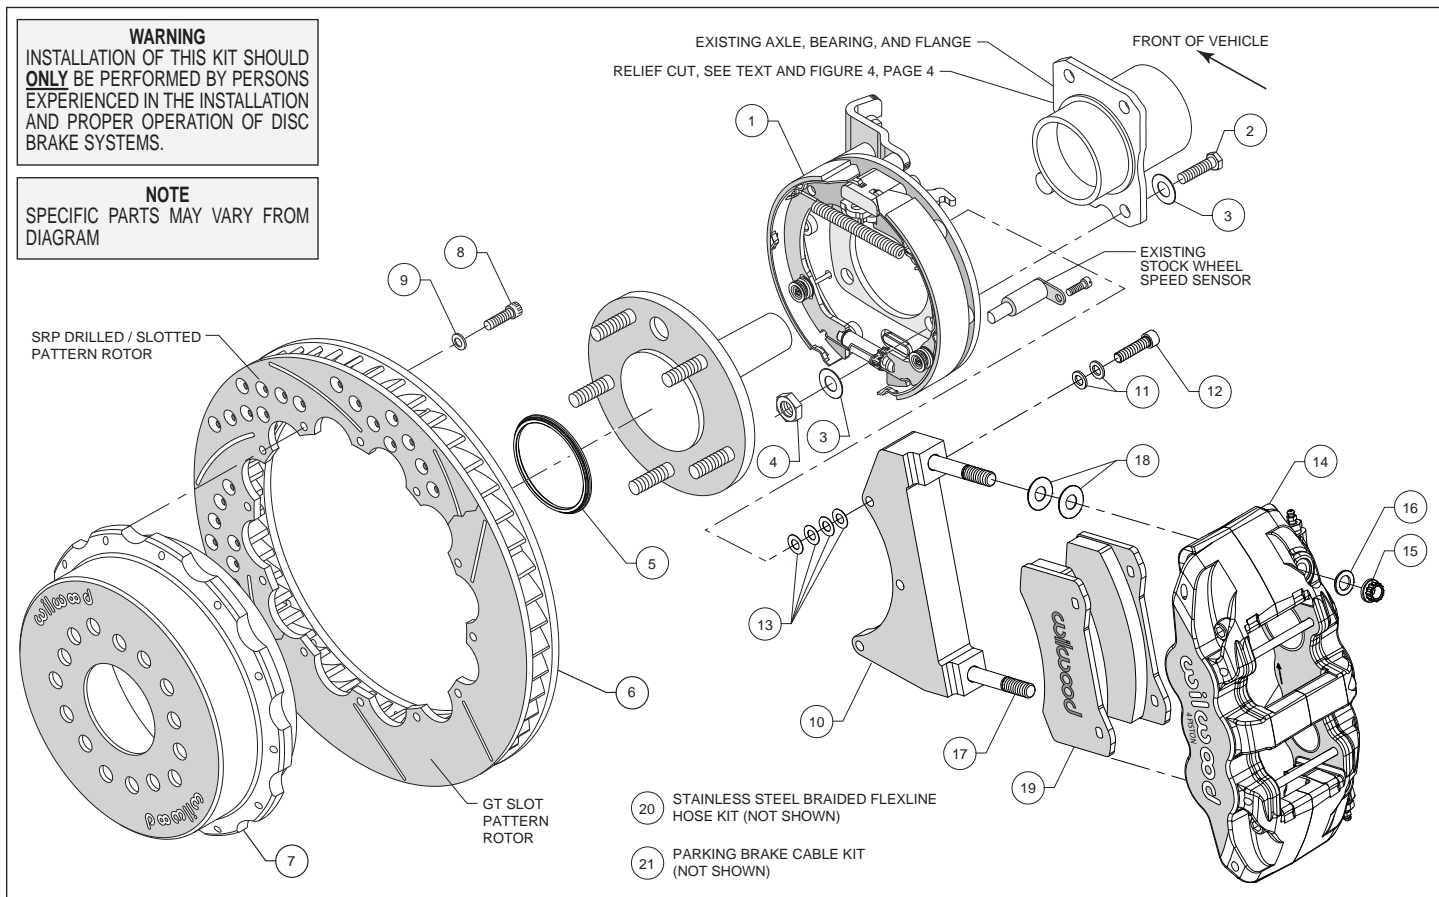
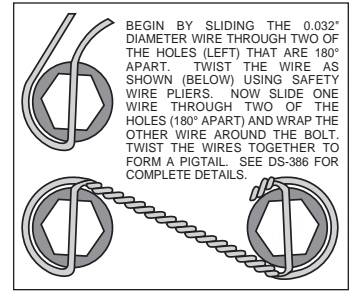

Figure 1. Typical Installation Configuration
Figure 5. Safety Wire Diagram
**Assembly Instructions** (numbers in parenthesis refer to the parts list, and Figure 1 on the preceding pages): **CAUTION:** All mounting bolts must fully engage threaded holes.
- Orient the bracket assembly (1), as shown in Figure 1, and mount to the axle housing flange using bolts (2), washers (3) and nuts (4), Figure 1. Ensure that the bracket assembly backing plate fits flush against the axle housing flange. Apply red *Loctite*® 271 to the bolt threads and torque to 30 ft-lbs.
- Orient the rotor (6) and the hat (7) as shown in Figure 1 and Photo 1. Attach rotor to hat using bolts (8) and washers (9). Using an alternating sequence, apply red *Loctite*® 271 to the threads, and torque to 155 **in-lbs**. For an added measure of security, the bolts may be safety wired using standard 0.032 inch diameter stainless steel safety wire as shown in Figure 5. Refer to Wilwood's data sheet DS-386 (available at [www.wilwood.com/Pdf/DataSheets/ds386.pdf](http://www.wilwood.com/Pdf/DataSheets/ds386.pdf)) for complete safety wire installation instructions.
- Slide the rotor registration adapter (5) onto the axle flange with the smaller O.D. facing toward the rotor/hat, Photo 2.
- Align the correct hole pattern in the rotor/hat with the stud pattern on the axle flange and slide into place, Figure 1 and Photo 3. **NOTE:** The rotor/hat must fit flush against the axle flange or excessive rotor run out may result. Install three lug nuts (finger tight) to keep the rotor/hat assembly in place while continuing with the installation. **NOTE:** Some OEM and after market axles come with stud sizes larger than 0.50" diameter. Verify stud size and have a qualified machine shop drill the bolt circle of the hat/rotor to the correct stud size, if necessary.
- NOTE:** Please reference the caution statement at the beginning of the assembly instructions. The caliper mounting bracket (10) should be installed first with clean, dry threads on the mounting bolts. Install the caliper bracket to the bracket kit assembly (1) using bolts (12), and two washers (11), as shown in Figure 1. Initially place four .015" thick shims (13) on each bolt between the bracket kit assembly and the caliper bracket. Temporarily tighten the mounting bolts. **NOTE:** The bracket must tighten squarely against the back side of the bracket kit assembly. Inspect for interference from casting irregularities, machining ridges, burrs, etc. Later, after the caliper alignment has been checked, the mount bolts will be secured using red *Loctite*® 271.
- Lubricate the caliper mounting studs (17) with lightweight oil. Initially place two .030" thick shims (18) on each stud between the caliper and the bracket, as shown in Figure 1 and Photo 4. Mount the caliper (14) onto the bracket (10) using lock nuts (15) and washers (16), Figure 1. Temporarily tighten the lock nuts and view the rotor through the top opening of the caliper. The rotor should be centered in the caliper, Photo 5. If not, adjust by adding or subtracting shims (13) between the bracket kit assembly (1) and the bracket. Always use the same amount of shims on each of the three mounting bolts. **NOTE:** The ends of the mounting bolts must fully engage, but not exceed, the inside face of the clinch nuts in the backing plate. If needed, add or subtract spare shims (13) and/or washers (11) under the bracket bolt heads to achieve proper clinch nut engagement. Once the caliper alignment and clinch nut engagement are correct, remove the bracket mounting bolts one at a time, apply red *Loctite*® 271 to the threads, and torque to 220 **in-lbs**.
- Remove the two pad retaining pins from the caliper (14) by carefully popping out the pin retaining clips and sliding out the pins. Insert the brake pads (19) into the caliper from the bottom, Figure 1 and Photo 6. With the friction material facing the rotor, secure the brake pads in place with the pad retaining pins and clips, Photo 7. Reinstall the caliper onto the caliper mounting bracket and temporarily tighten the lock nuts. Check that the top of the brake pad is flush with the outside diameter of the rotor, Photo 8. If not, adjust by adding or subtracting shims (18) between the caliper and the bracket. After the caliper pad height is set, torque the caliper lock nuts (15) to 47 ft-lb.